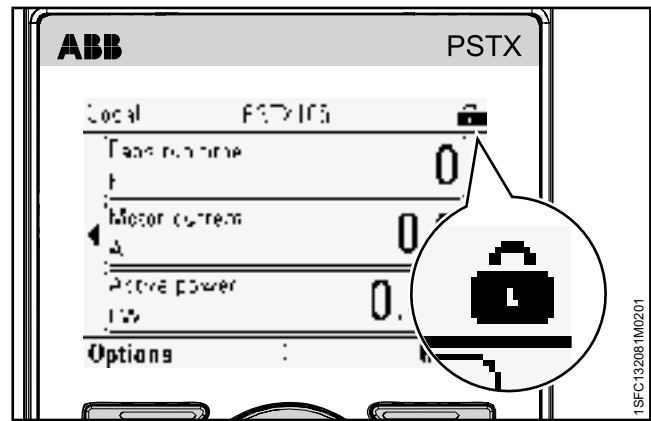

Figure 6.10
1. Parameter locking, See **Figure 6.10**